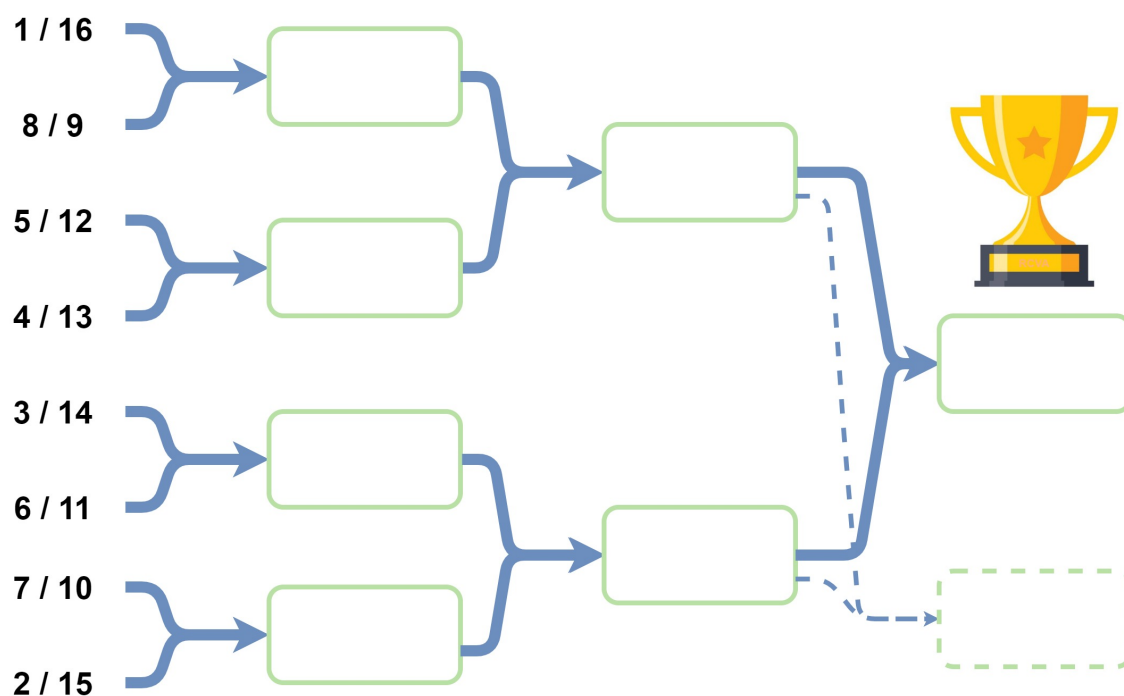

Figure 17 – Tree of the final phase
Each team that wins its play-off match will be included in the main draw of the final phase of the match (B). At the end of the play-off phase, the tree of the final phase of the match (B) presented in Figure 17 may be revised to more accurately represent the level of each team.